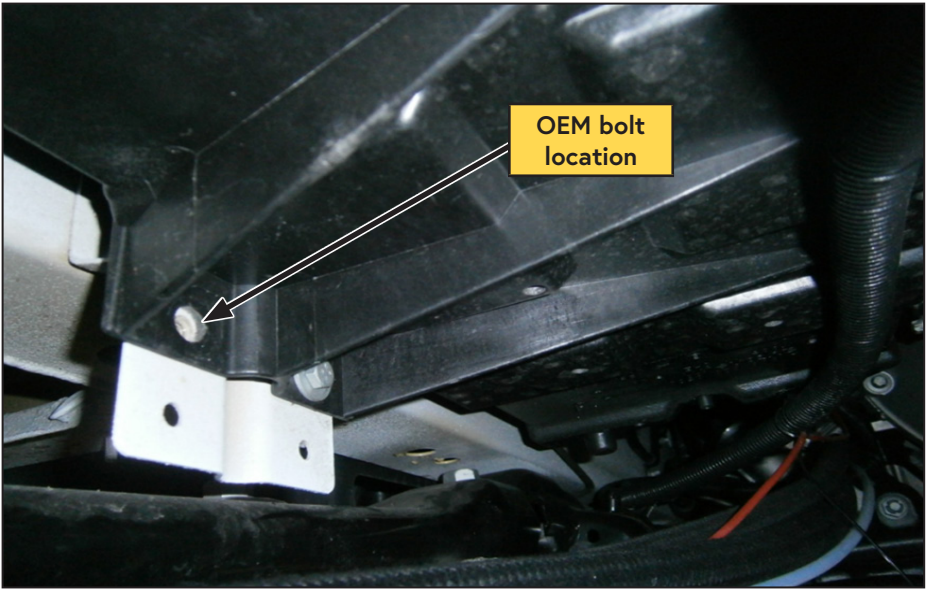

Figure 41 — Remove battery bolt
- Remove and discard the OEM M6 bolt on the rear of battery box (Figure 41).